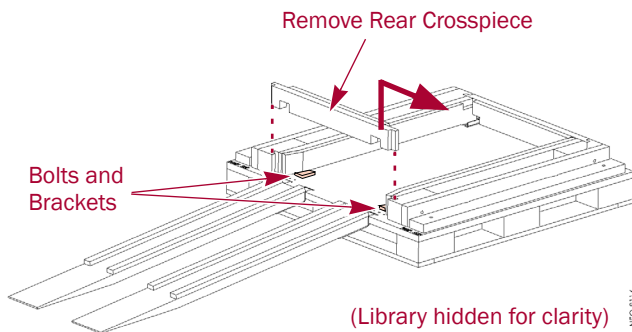

Figure 6. Removing the Rear Crosspiece
a. To access the hold-down bolts and leveling legs, remove the **rear crosspiece** (Figure 6).